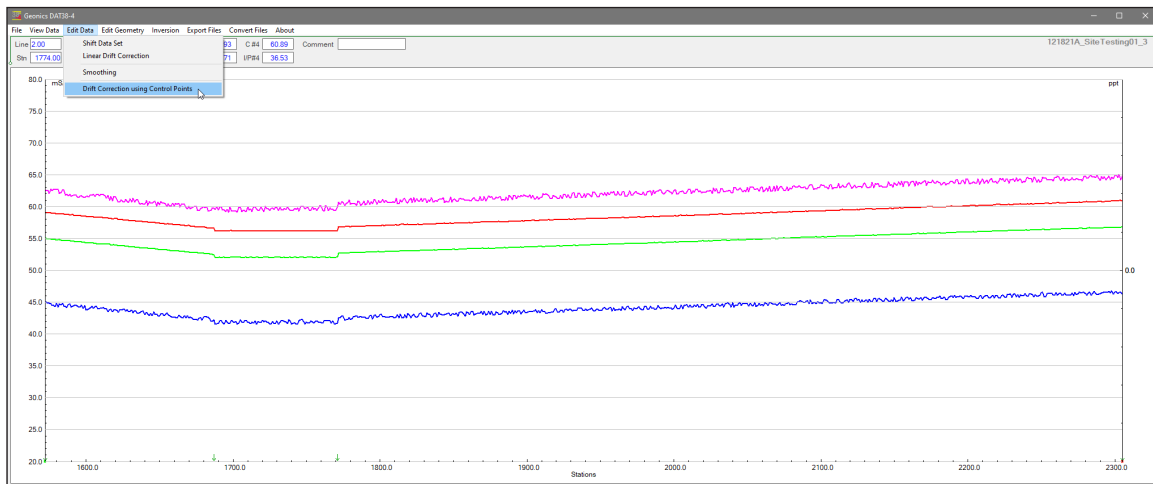

Figure 4.12 DAT38-4 screen with the Drift Correct menu item selected
1. Select **Edit Data | Drift Correction using Control Points** from the main menu (Figure 4.12).